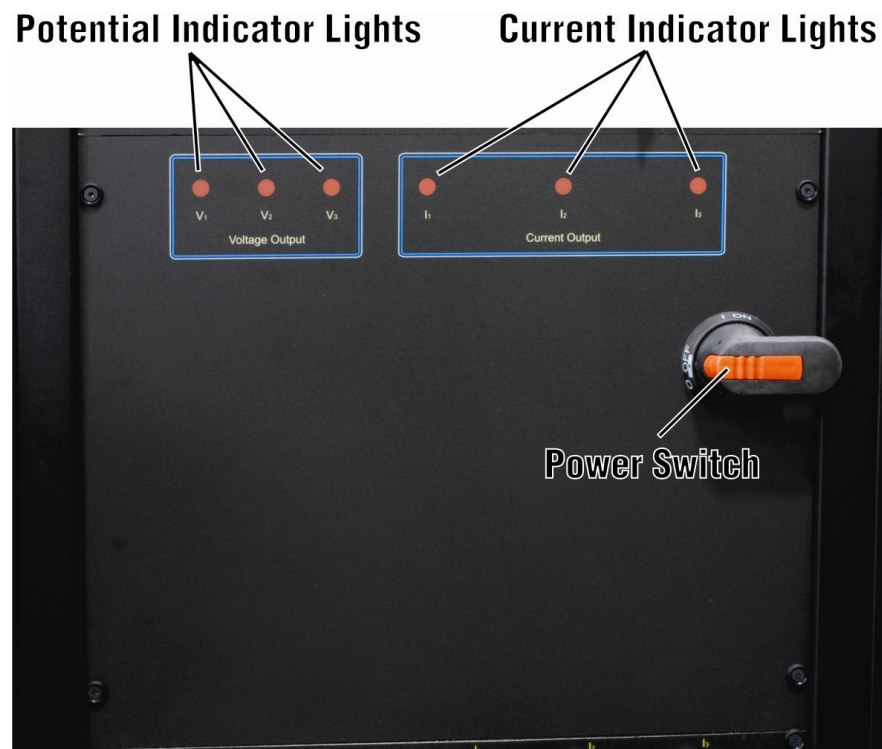

Figure 5. RS-933 Main Power Switch on Potential and Current Indicator Panel.
It also contains the main power switch for the RS-933 Syntron Automated Calibration System (see Figure 5). In the off position, this switch can be locked into place with a padlock or a lockout-tagout mechanism.
- When the installation is complete, the icon below (see Figure 5) will appear on the desktop.